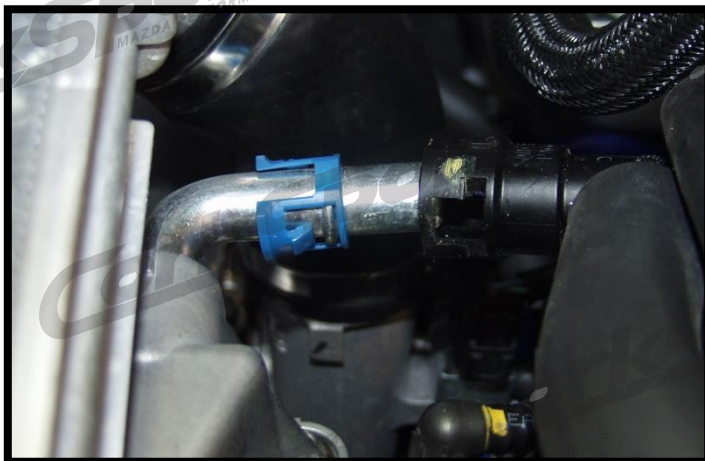

Figure 1d
- e) Remove the valve cover breather tube. (Figure 1d)
e) Remove the valve cover breather tube. Push the hose connector toward the valve cover and press both sides of the colored clip simultaneously, and then pull the hose away from the valve cover (Figure 1d).